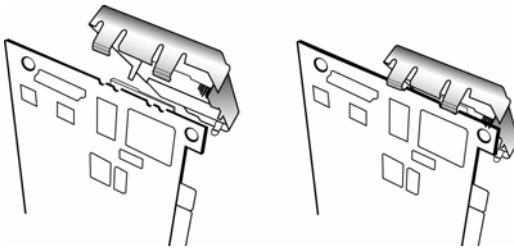

Figure 6. Clips on the BBU match to slots on the controller
- 5 Match the clips on the end of the BBU to the slots on the edge of the controller to create a hinge and rotate the BBU to position it over the card, as shown in Figures 6 and 7.